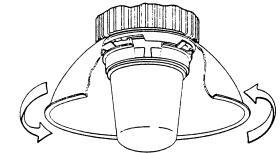

FIGURE 6
5. The reflector can be removed by rotating counterclockwise until the three reflector tabs are free of the captivated bosses. See figure 6.